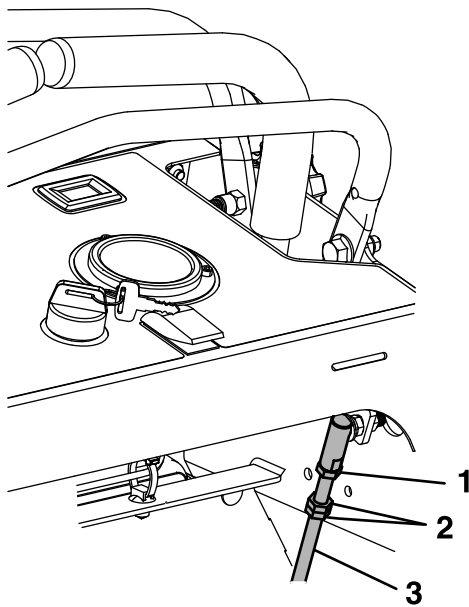

Figure 45
6. Loosen the upper jam nut at the base of the ball joint as shown in Figure 45. Adjust the control rod length by turning the two jam nuts. To increase the gap, turn the control rod counterclockwise. To decrease the gap, turn the control rod clockwise.
5. Loosen the top jam nut at the upper end of the ball joint on the lever that needs to be adjusted (reference Figure 45).